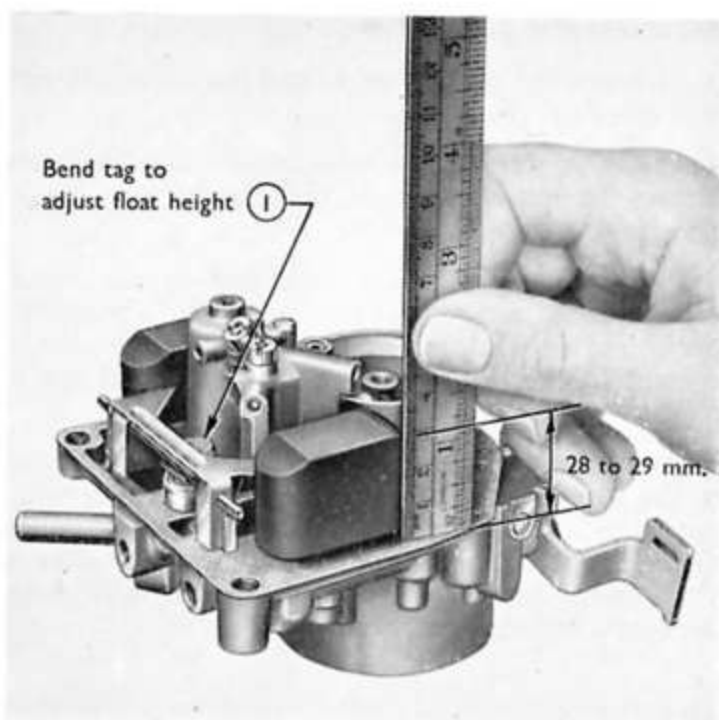

Fig. 13
4. Examine the float, ensuring that it has not been punctured, and the float arm to see that this is not damaged or bent. Check petrol level in the float chamber as indicated in Fig 13 - checking Float Level.